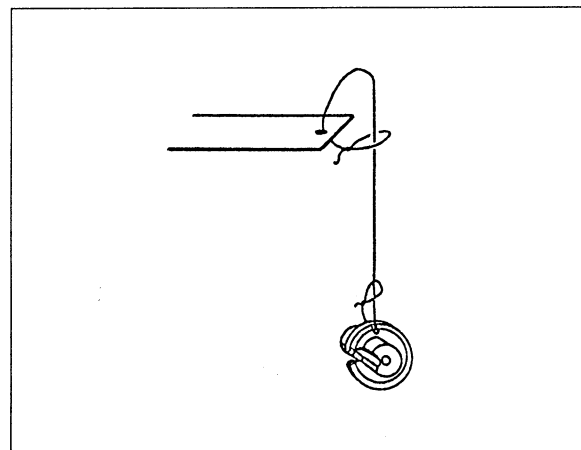

Fig. 3 Attaching a weight to the end of the leaf spring which has a hole in it
4. Attach the weight to the end of the leaf spring ► Fig. 3.